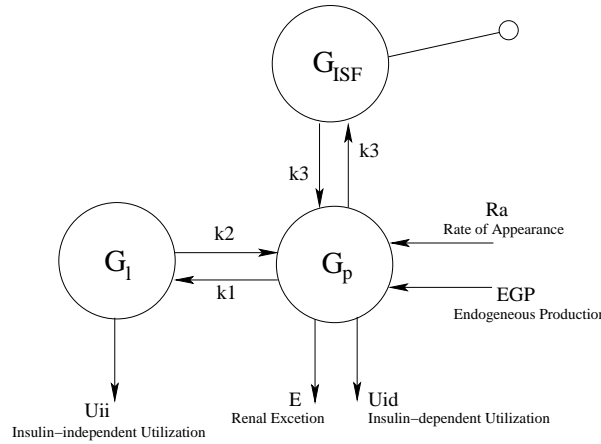

Figure 7.1 Interstitial and Plasma Glucose compartment kinetics.
- 7.3** Subcutaneous Delay: Consider the compartment model in Fig. 7.1. Write down the balance equation governing the interstitial glucose value, G_{ISF} . Assume that $G_P(t) = \sin(\omega t)$. Determine what the amplitude of G_{ISF} becomes for $\omega = 1$ and $\omega = 100$, when $k_3 = 10$. Plot the bode diagram of the system from G_P to G_{ISF} . What can you say about the permeability of signals G_P with different ω ?